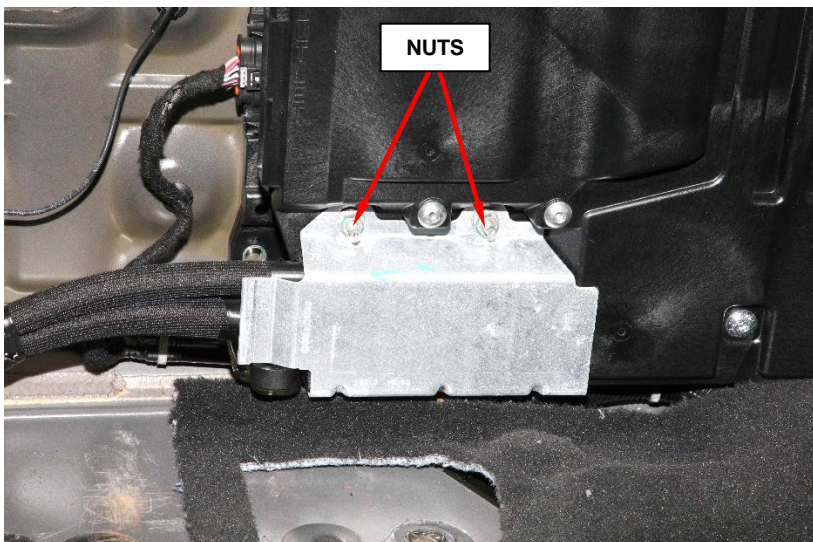

Figure 9 – Wiring Shield
14. Remove the two nuts that secure the wiring shield and remove the shield (Figure 9).
- Install the wiring shield and securely tighten the nuts (Figure 9).
10. Remove the two nuts that secure the wiring shield and remove the shield (Figure 9).
12. Install the wiring shield and securely tighten the nuts (Figure 9).